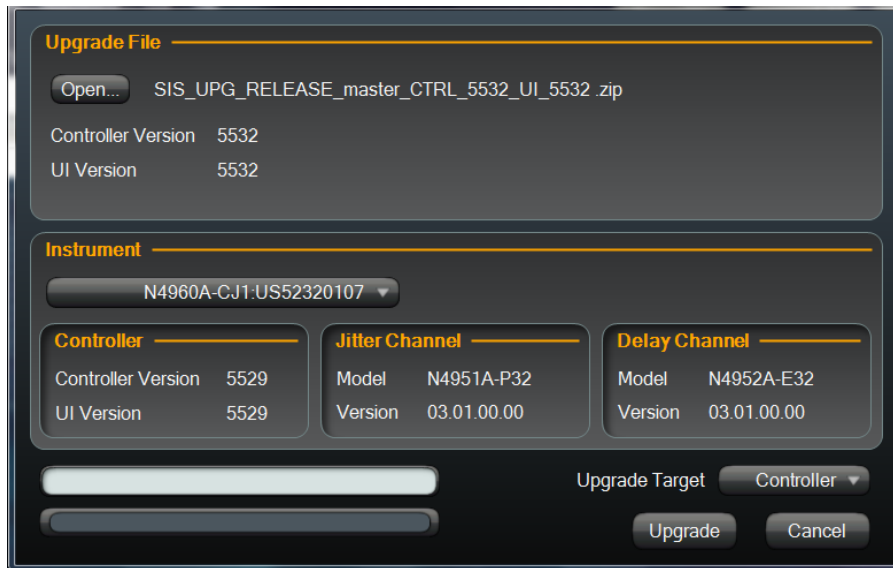

Figure 101. View instrument version information
8. Once the instrument is selected, its **Controller Version** and **UI Version** (for a controller), and **Model** and **Version** (for a remote head), are displayed as shown in Figure 101.